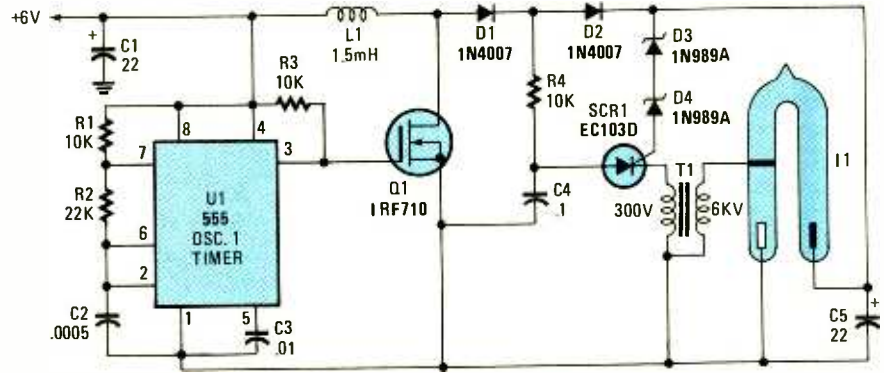

Fig. 8. At the heart of this strobe-light circuit is a 555 oscillator/timer whose output controls the flash rate of the strobe lamp.
**"I Shot an Arrow in the Air..."** It fell to Earth, I knew not where." I lose more darned arrows that way! So I built a lightweight strobe to launch in my model rockets at night (see Fig. 8). After assembly, this unit weighs a scant 1.5 ounces without the batteries, and it flashes every 2.5 seconds.